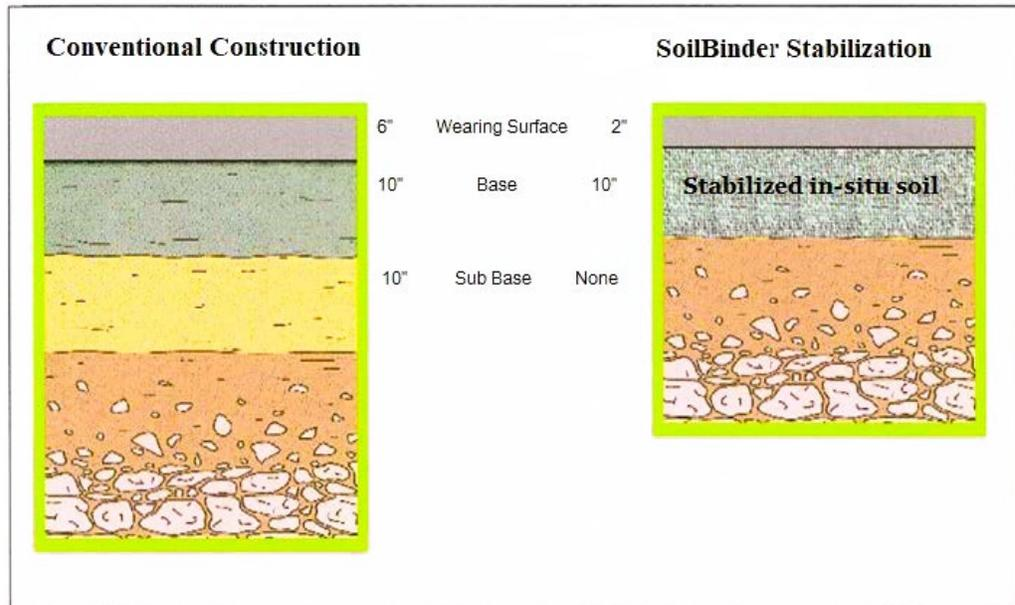

Fig. 1: Soil Stabilization using SoilBinder® vs Conventional Soil Stabilization methods.
- Stabilization with SoilBinder® allows the elimination of the subgrade layer on conventional designs (see Fig. 1).